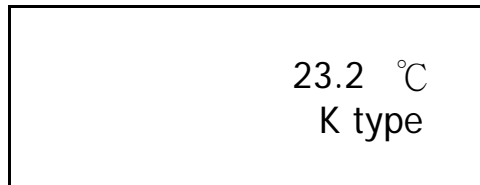

Fig. 2
1) LCD under the normal measurement screen, for example as Fig. 2.